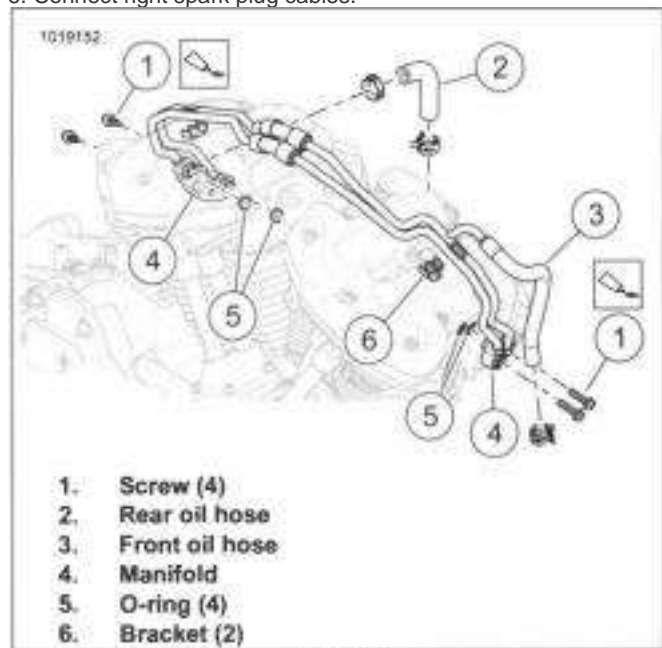

Figure 4-13.
2. See Figure 4-13. Disconnect upper hose (3) from oil cooler.
- b. Blow into the hose (3) where disconnected from oil cooler.
4. Disconnect hose (2) from transmission fitting.
5. Remove screws (1) from each manifold (4).
7. If necessary, remove rear oil hose (2) from line assembly.
2. See Figure 4-13. If removed, install hose (2) to line assembly. Secure clamp. See CRIMP CLAMPS (Page 4-18).